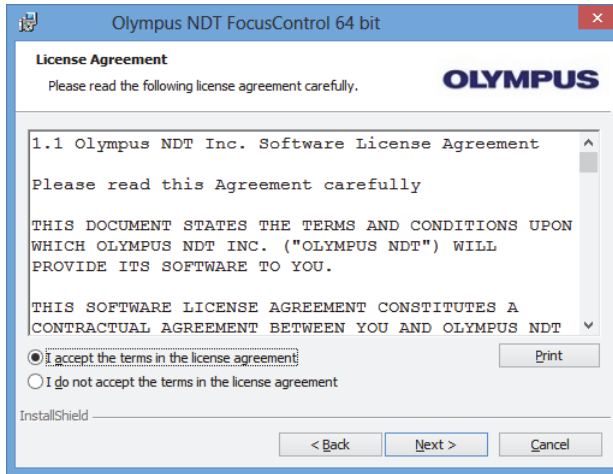

Figure 1-5 The Licence Agreement page
3. On the **License Agreement** page of the installation wizard, select **I accept**, and then click **Next** (see Figure 1-5 on page 20).